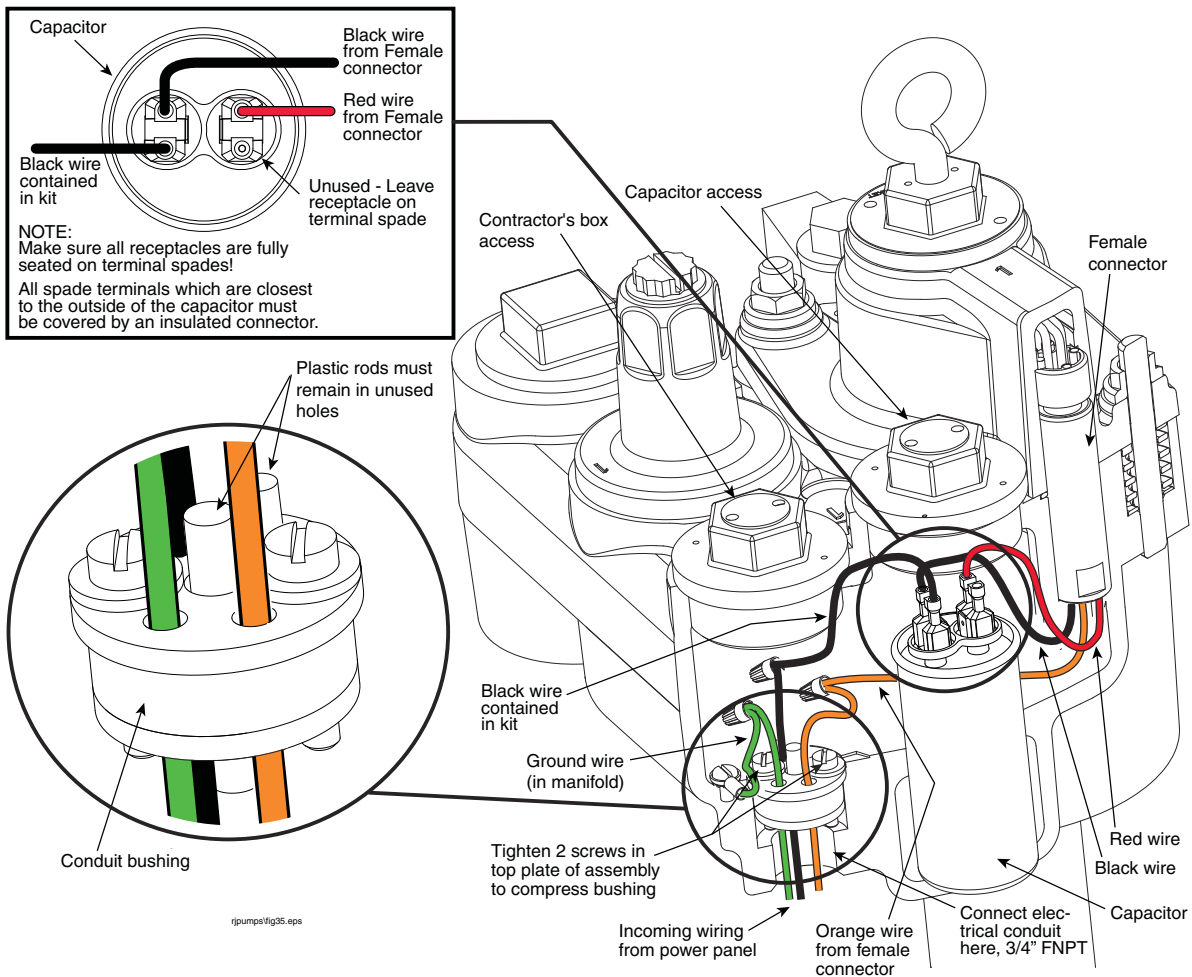

Figure 15. Power wiring enters through compression bushing - single phase example shown
1. Connect electrical conduit approved fittings to power wiring entry at base of manifold's contractor's box (see cutaway example in Figure 15 for single phase power wiring or Figure 17 for three phase power wiring).
2. Loosen the two screws in the compression bushing just enough so you can remove the bushing from its socket in the bottom of the manifold's contractor box (see Figure 15). Continue lifting up the bushing until it is accessible. Notice that the top plate of the bushing assembly (facing into the manifold) has a larger diameter than the bottom plate, and that there are two open holes and three holes with plastic rod inserts. The plastic inserts seal the bushing and must remain in any unused hole. For example, bringing three wires from the power panel, use the two empty holes and remove and discard one of the two smaller diameter plastic inserts for the third wire. Push each of the incoming power wires through the empty holes in the bushing assembly. Slide the bushing assembly down over the power wires until it seats in its socket in the base of the manifold's contractor box and then tighten the two screws in bushing assembly securely to compress the bushing and seal the wiring entry.